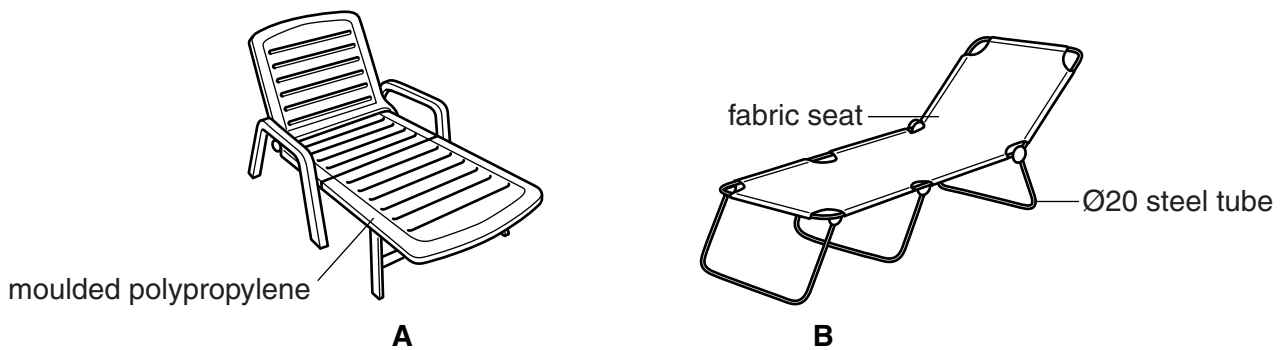

Fig. 8
- 10 Fig. 8 shows two sun loungers used in a garden.